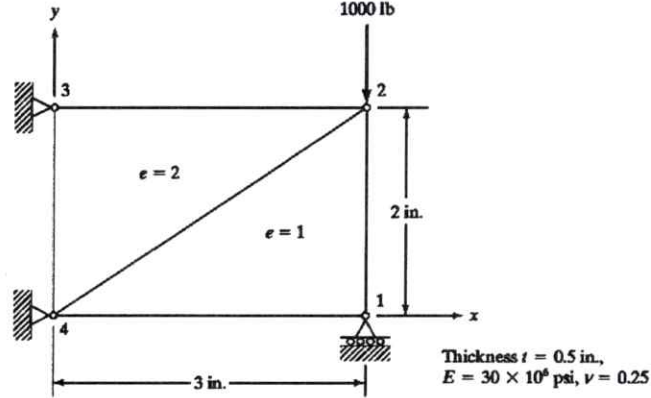

Fig.4.
- For the two-dimensional loaded plate shown in Fig.4, determine the displacements of nodes 1 and 2 and the element stresses using plane stress conditions. Body force may be neglected in comparison with the external forces.